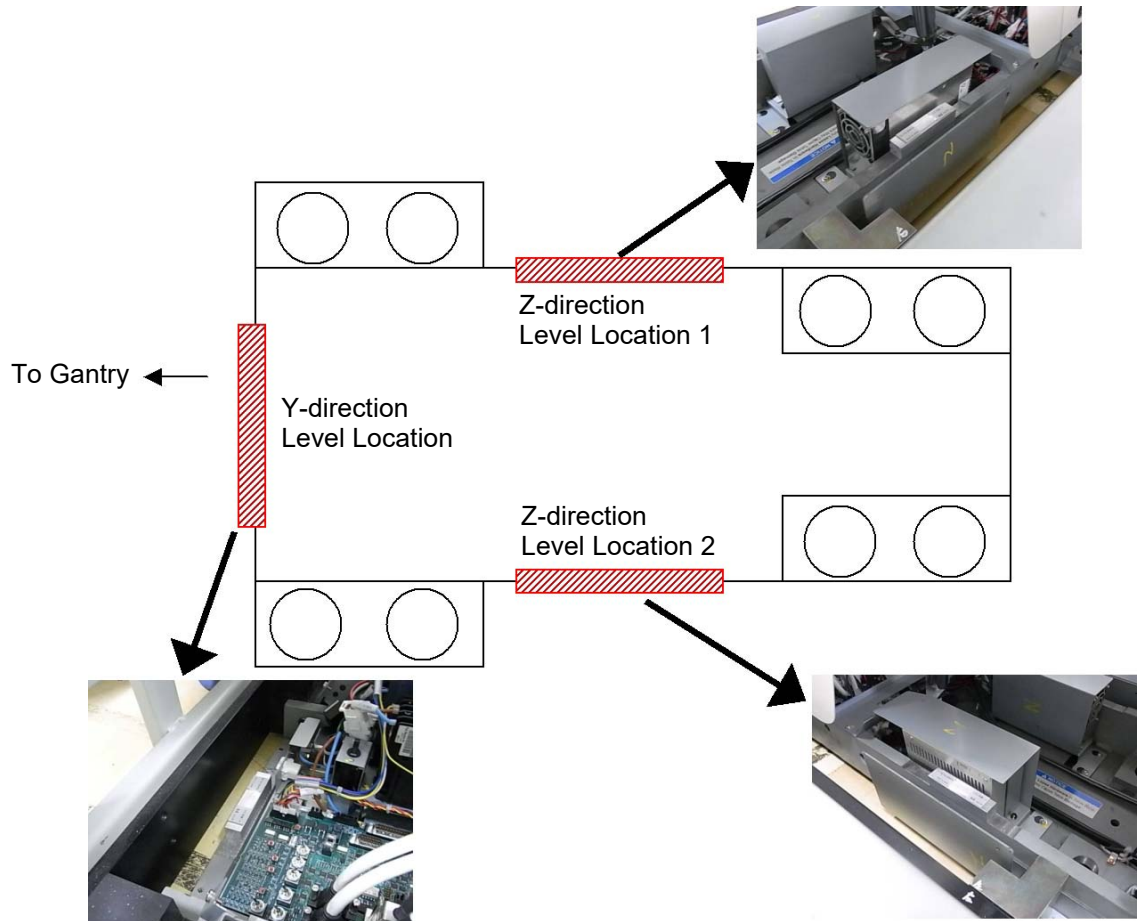

Figure 1-38 Level Location on the Table Base
9.) Place the bubble level on the table base. Refer to Figure 1-38.
- The cradle is leveled in the Z-direction at 2 positions shown in Figure 1-38.